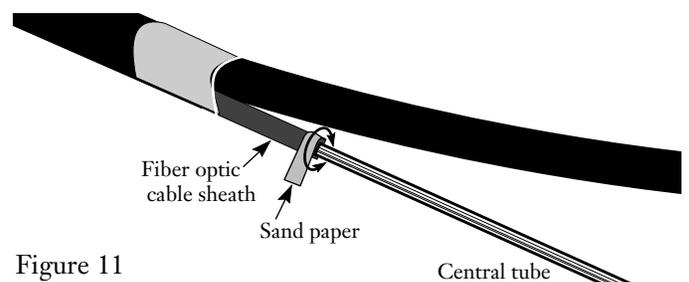

Figure 11
5.17 Scuff the last 0.5 inch (1.25 cm) of the fiber optic cable sheath in a circular motion (Figure 11) with the sandpaper provided in the kit. Wipe away the resulting dust/grit.